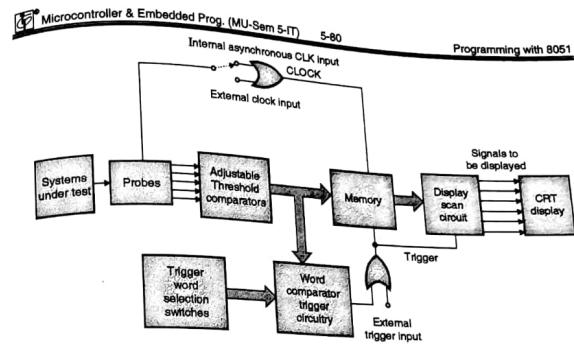

Fig. 5.4.3 : Block diagram of logic analyzer
- The logic analyzer is basically a multichannel oscilloscope. Fig. 5.4.3 shows the block diagram of a logic analyzer.